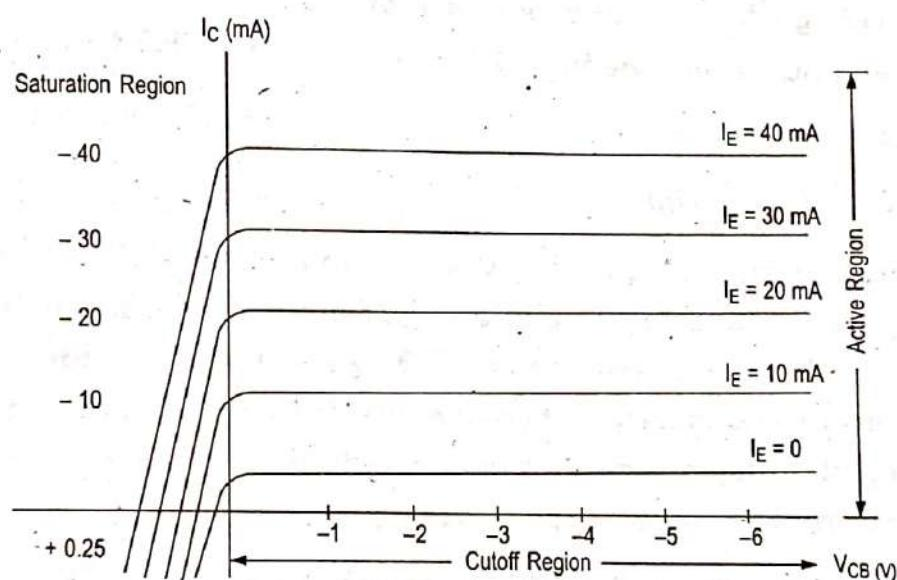

FIGURE 4.14 : Output Characteristics of a PNP Transistor
**Output Characteristics :** The relation of Equ. (2) is depicted in Fig. 4.14 for a typical pnp transistor and plots the collector current  $I_C$  against collector to base voltage  $V_{CB}$  using  $I_E$  as the parameter.